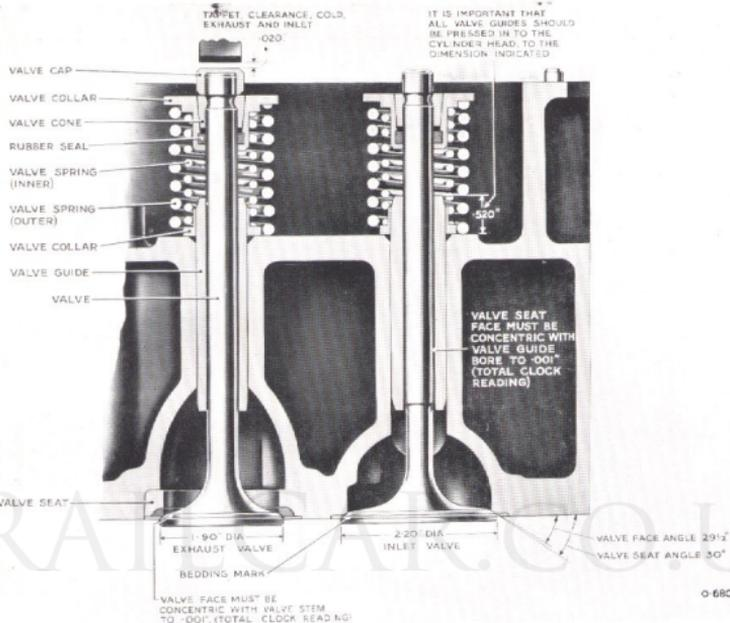

Fig. 28. Valves and springs in position.
Both valves are stellite-faced and have hard-chrome-plated stems. The valves can be distinguished by the difference in size across their heads (Fig. 28).
2. The valve guides are an interference-fit in the heads and must be pressed in and out when replacements are necessary. See Fig. 28 for position of valve guide in head.
- When the valves and seats have been re-cut, or when the valves and seats are in good condition, they should be lightly lapped together to give a perfect seating. The seating mark should be a thin line towards the top of the seat (Fig. 28).